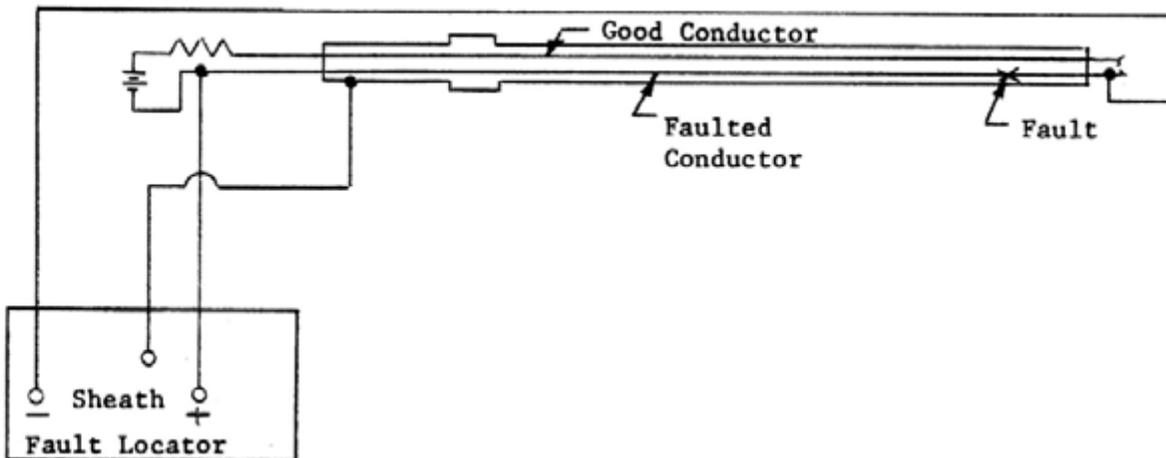

FIGURE 4: Fault to sheath, two conductor cable, removed end cap.
- D. On a two conductor, cable errors are introduced in the readings when both conductors are "faulted" to the sheath because of wet MGO. The most accurate readings may be obtained by following the operating procedures above and connected per Figure 4.